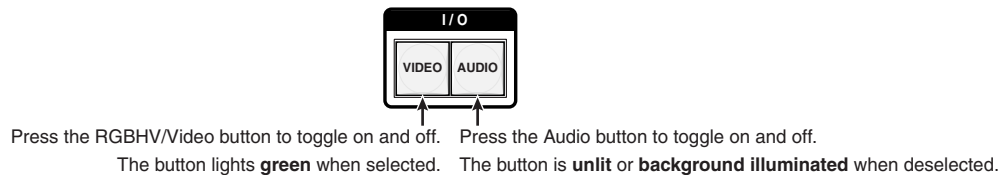

Figure 3-11 — Select RGBHV or video only
2. To select video only for the tie, if necessary, press and release the RGBHV (CrossPoint 450 Plus switchers) or Video (MAV Plus video switchers) button and the Audio button (figure 3-11).